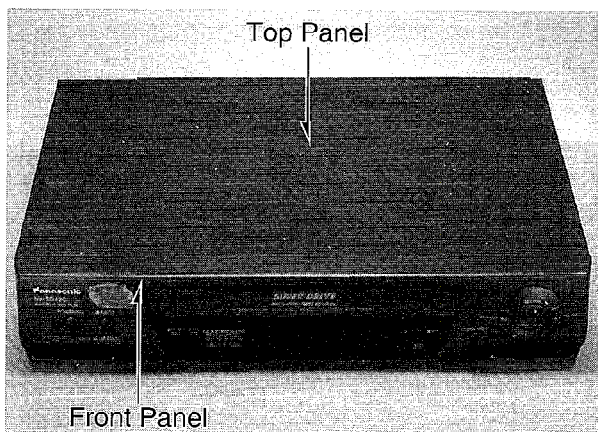

Fig. B1
- (1) Remove Top panel and Front panel unit (Fig. B1)